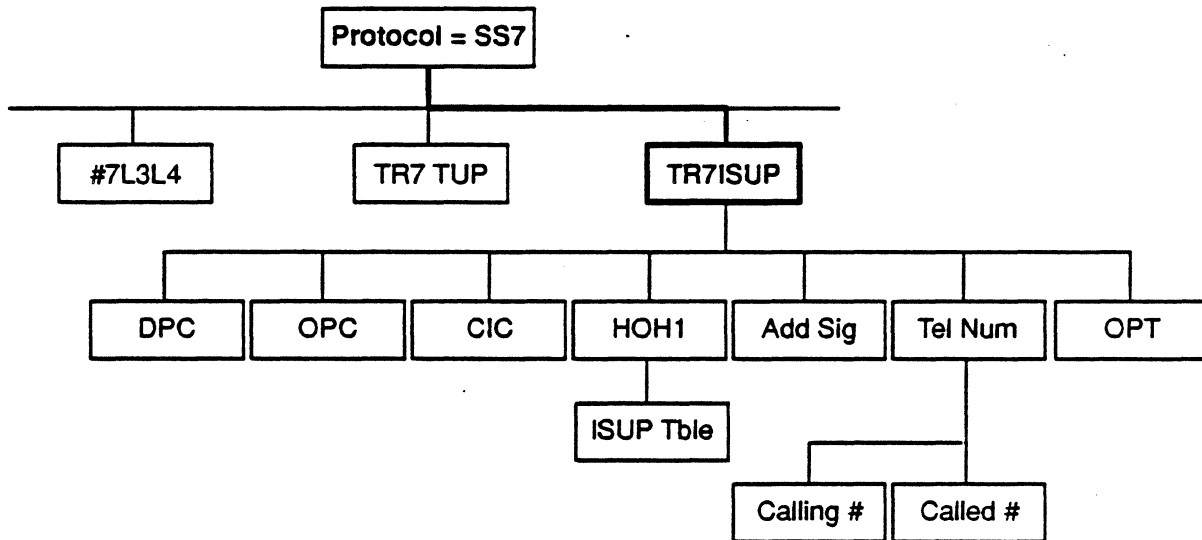

Figure 8.14: SS#7 1TR7 ISUP Level 3 and Level 4 Options
*F9 TR7ISUP* displays function key options for 1TR7 #SS7 ISDN User Part (ISUP) triggering, as shown in Figure 8.14. This option provides direct access for writing 1TR7 SS7 ISUP triggers.